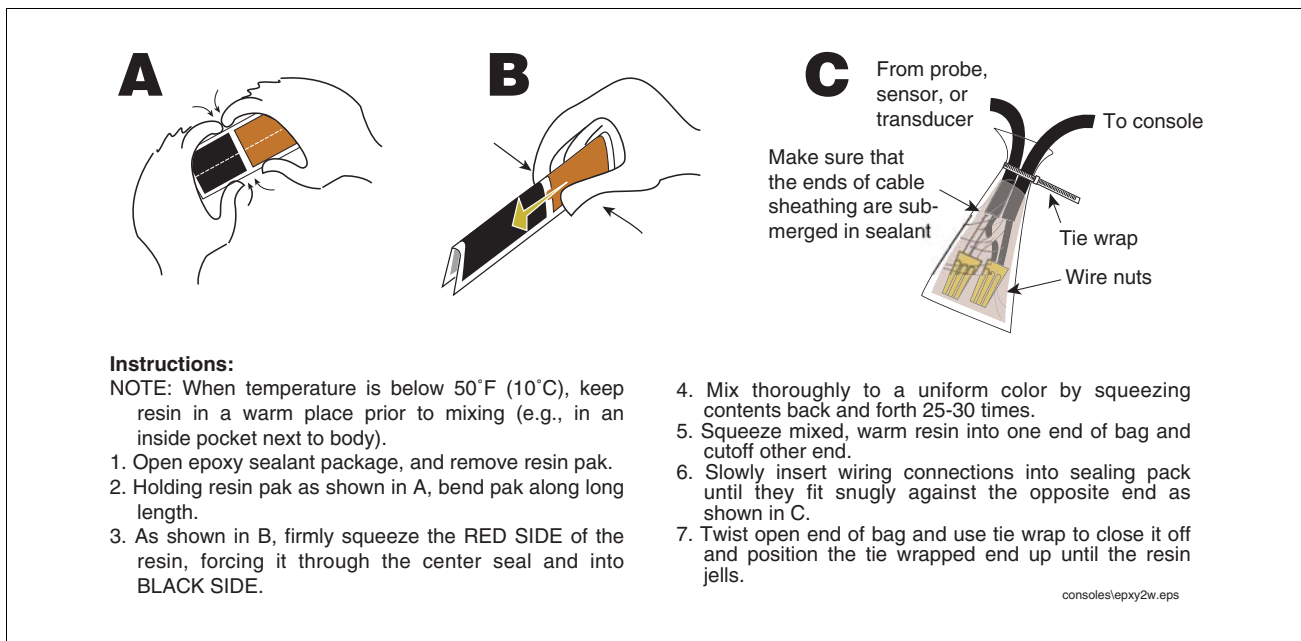

Figure 52. Epoxy Sealing Probe and Sensor Field Connections
3. Seal wire nuts with epoxy sealant following the instructions in Figure 52.